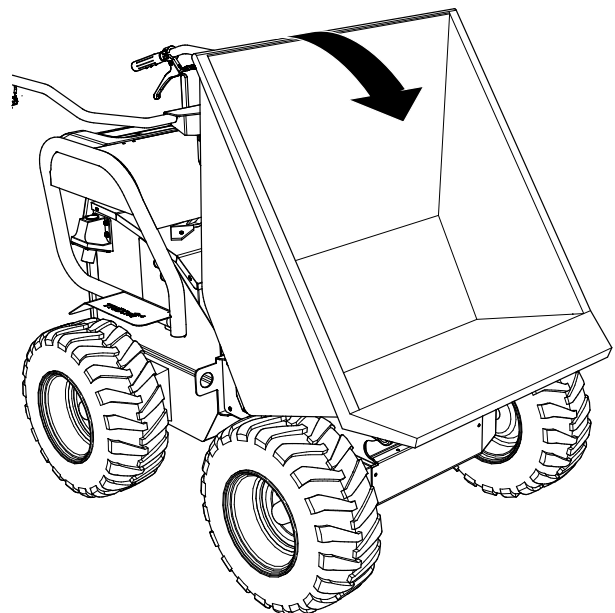

Figure 4. Tub Discharge Position
1. Place the tub in the discharge position (Figure 4).